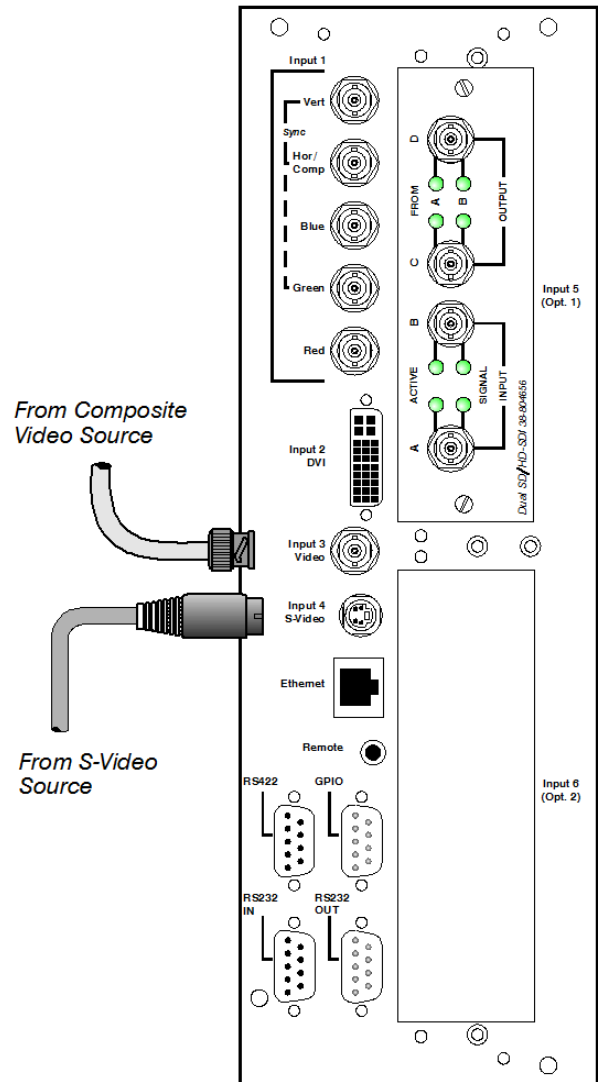

Figure 2-13 Connecting Composite Video and/or S-Video
**INPUT 3** and **INPUT 4** provide simultaneous connection of both a composite video source (**INPUT 3**) and an S-Video source (**INPUT 4**). See Figure 2-13.
**NOTE:** *Unlike previous Christie projectors, composite video and S-Video cannot connect to any other locations on the input panel. Connect as shown in Figure 2-13.*